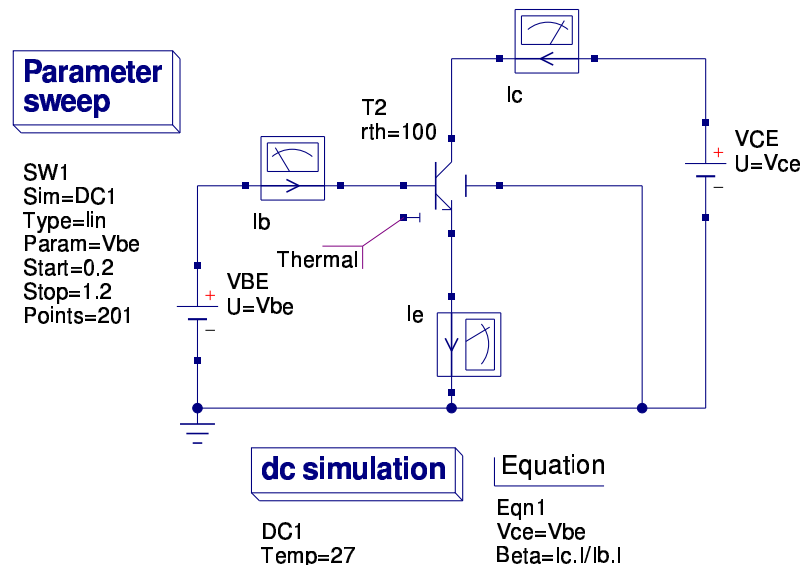

Figure 1.4: forward Gummel plot schematic for HICUM/L2 v2.11 model
**DC simulation.** The setup for the forward Gummel plot is depicted in fig. 1.4. The base-emitter voltage is swept ( $V_{BE} = 0.2 \dots 1.2$ ) with a constant voltage across the second diode  $V_{BC} = 0$ .